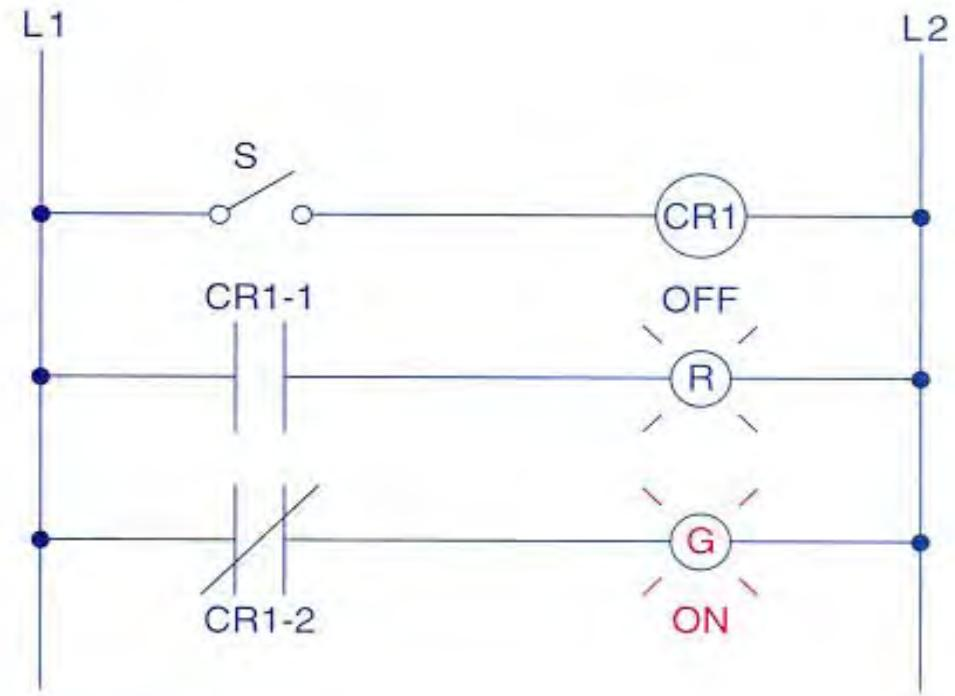

Fig. 6-3
*Methodologies for the implementation of solutions in industrial automation**Device: Relay**Contact Diagram or Ladder Diagram***Fig. 6-3**